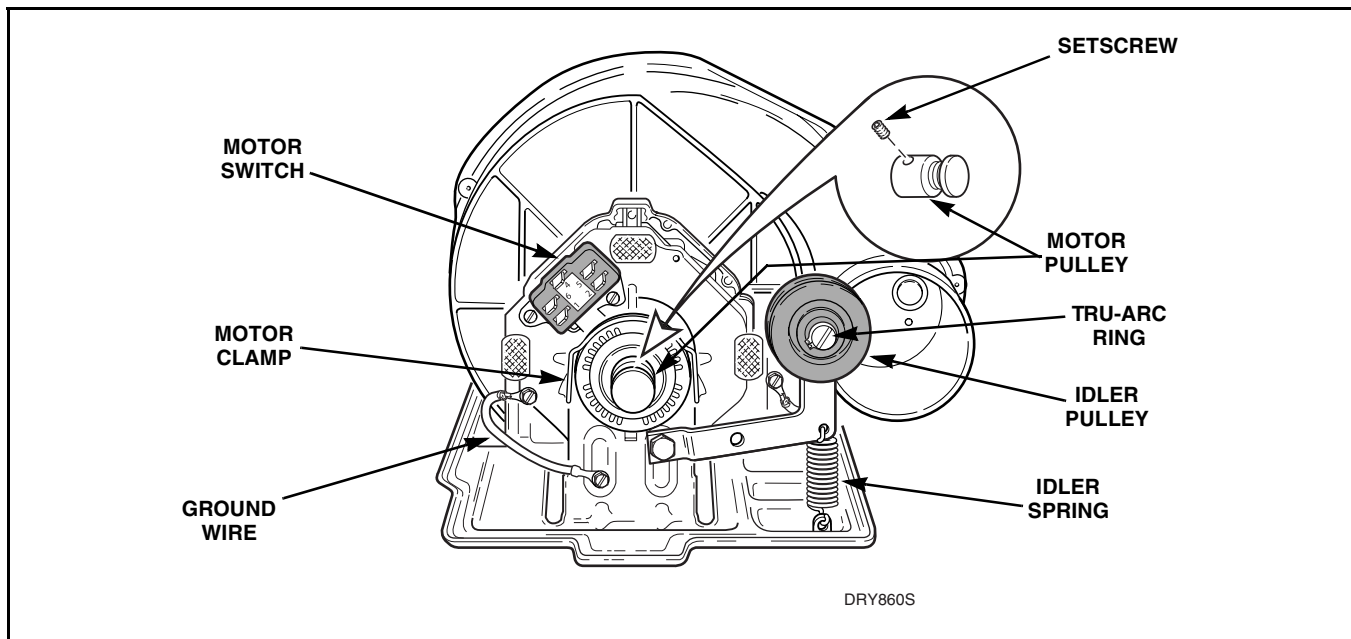

Figure 30
- (1) Refer to *Figure 30* for motor and idler pulley removal.
- (1) Disconnect wires from motor switch. Refer to *Figure 30*.
- (2) Disconnect ground wire from motor. Refer to *Figure 30*.
- (3) Pry two motor clamps off using a screwdriver. Refer to *Figure 30*. Then lift motor out of mounting bracket.